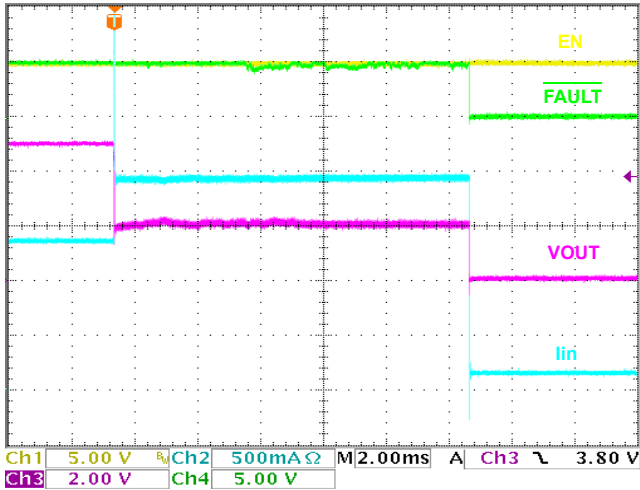

FIGURE 11. 1.5A VARIANT  $I_{LIM}$  WAVEFORM
The ISL6186 is a single channel overcurrent (OC) fault protection IC for the +2.5V to +5V environment. Each ISL6186 has a 45mΩ P-channel MOSFET power switch for power control. An enabling input and fault reporting output compatible with 2.5V to 5V logic allows for external control and reporting. This device features an integrated power switch with current monitoring, accurate current limiting, reverse bias protection, and current limited timed delay to turn-off for system reliability. See Figures 11 through 27 for typical operational waveforms including both undercurrent and overcurrent situations.
External current loading in excess of the trip current level for the particular part being evaluated will result in the ISL6186 entering current limiting mode. Figure 11 illustrates current limiting mode